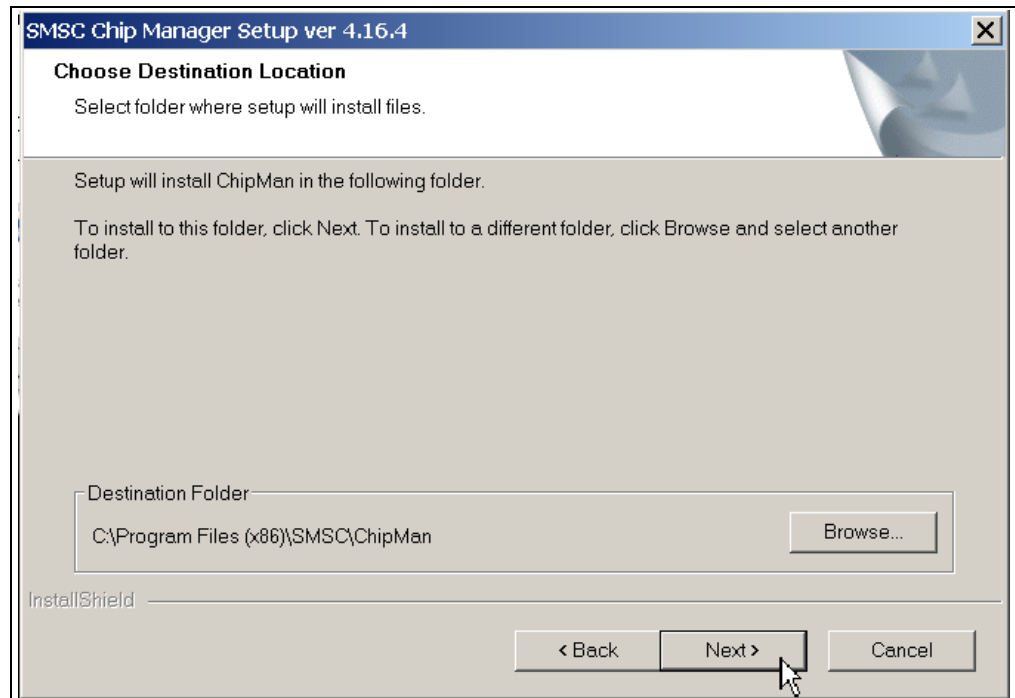
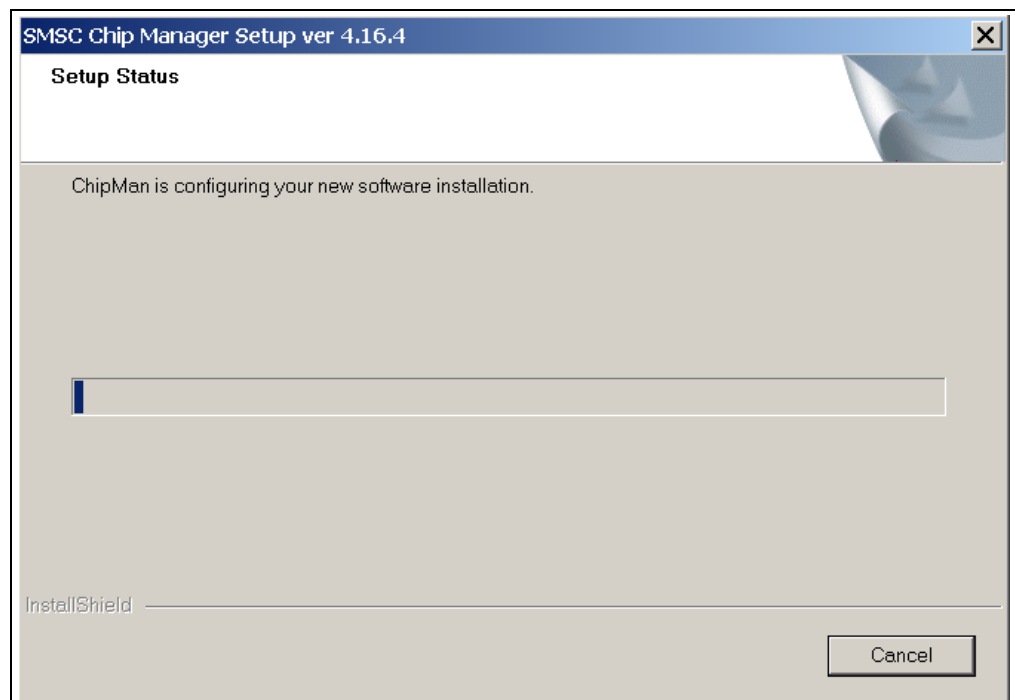

FIGURE 2-4: Destination Path Dialog.
FIGURE 2-5: Setup Progress Window.
7. On the Choose Destination Location dialog, browse for the desired location, or click **Next** to install in the default location (see Figure 2-4). The application setup window appears, showing the installation progress (see Figure 2-5).